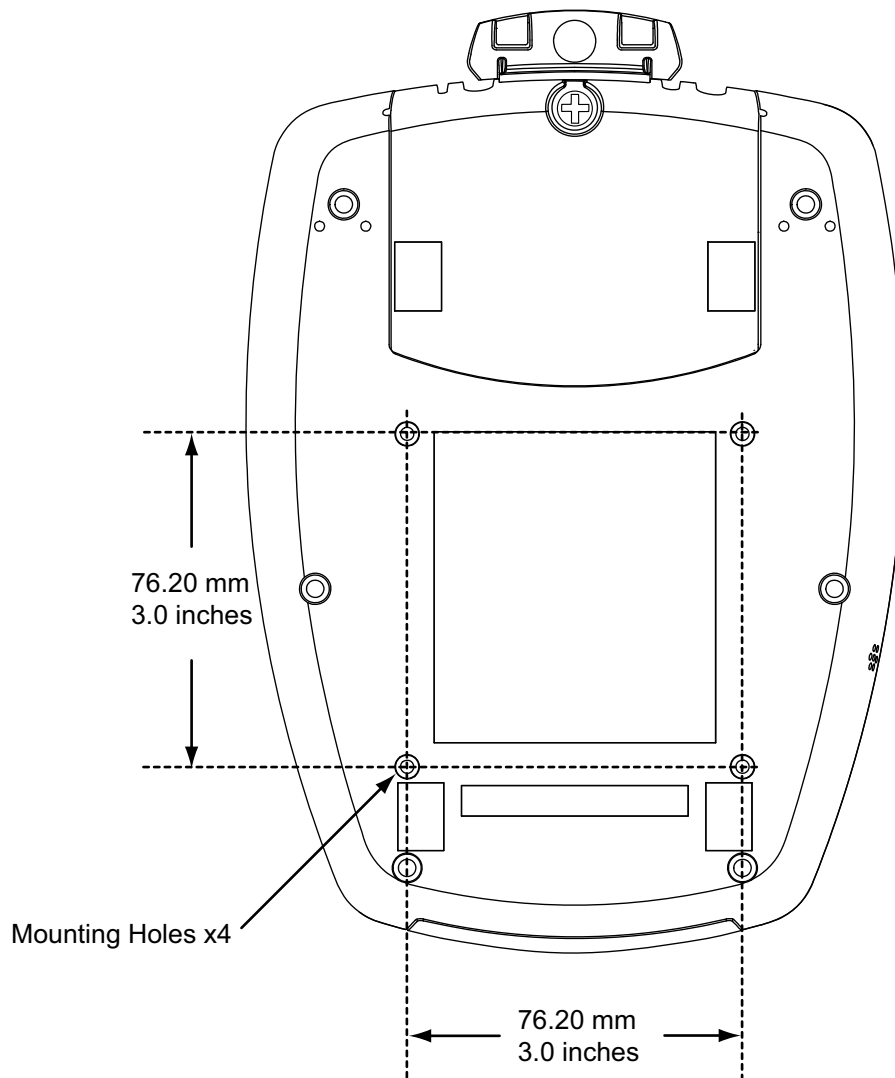

Figure 4. Mounting hole locations
1. Drill four 3.5mm (9/64 inch) holes in the surface where the ViVOpay 8800 will be mounted. Use the hole spacing shown in Figure 4.